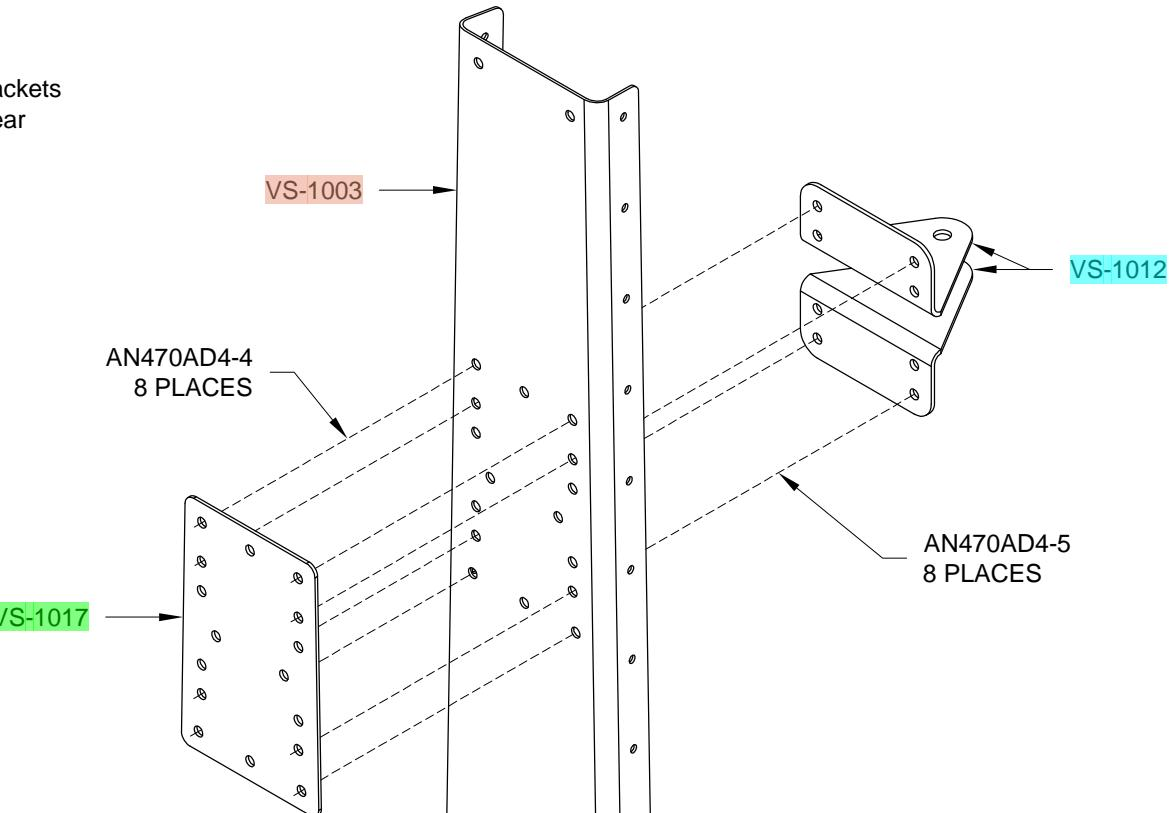

FIGURE 2: TOP RUDDER HINGE BRACKET AND HINGE DOUBLER RIVETS
Step 5: Attach the VS-1012 Top Rudder Hinge Brackets and the VS-1017 Hinge Doubler to the VS-1003 Rear Spar using the rivets called out in Figure 2.
Step 6: Reassemble the rest of the Rear Spar Assembly (except for the VS-01010-1 Bottom Rudder Hinge Bracket) as shown on Page 6-2, Figure 2. Make sure the countersunk holes at the bottom of the VS-1008 Rear Spar Doubler are facing forward.